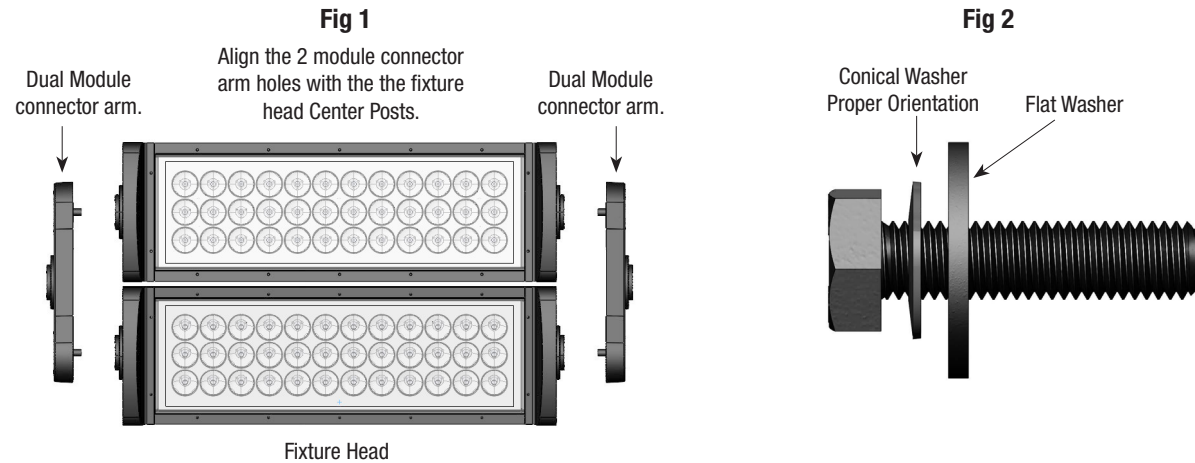

Fig 1
- 2) Layout two fixture heads and place the Dual Module connector arms one on each side. **Fig 1**